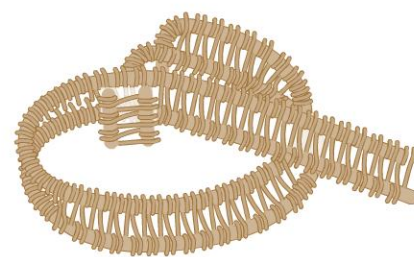

figure 4
- 9 Flush cut the bent frame wire so the ends sit inside the ring. If the wire edges are sharp, file them smooth. Gently squeeze the wire ends with nylon-jaw pliers to tuck them into place inside the ring (Figure 4).